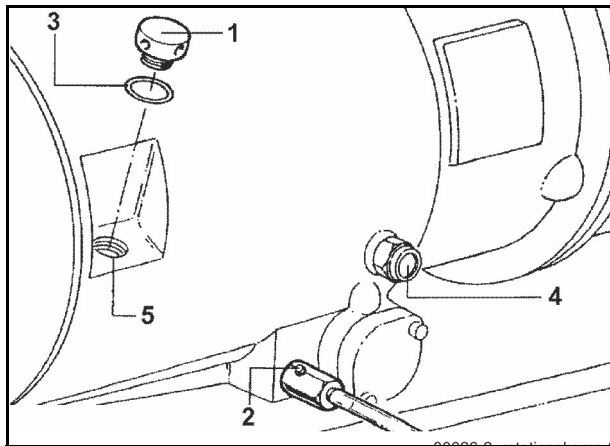

Fig. 215 Maintenance openings on compressor
- The sight glass (4) can be used to check the oil level (Fig. 215).
- Carefully open the filler plug **(1)** (**Fig. 215**) to equalise the pressure.